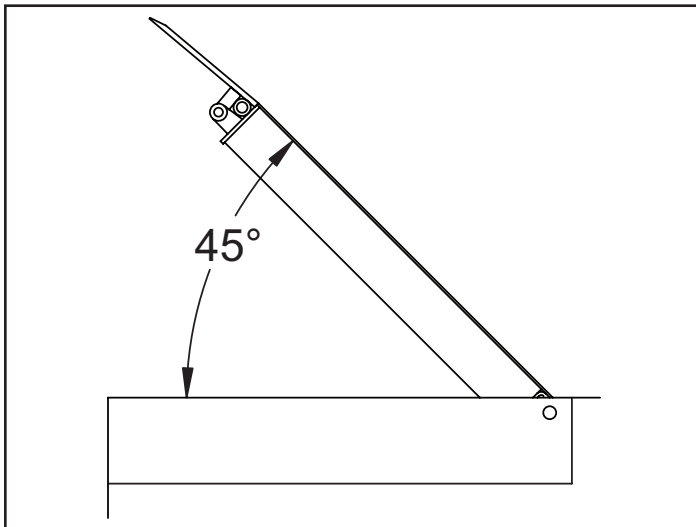

FIGURE 11 - LEVELER AT 45 DEGREES
- a. From the fully raised position, lower the platform to 45° above dock height. See figure 11. The platform should completely stop moving and the lip should retract.